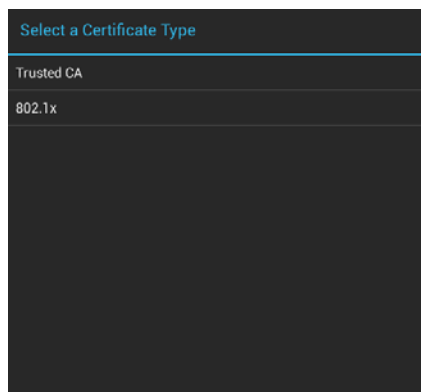

FIG. 106 Select a Certificate Type window
2. Select the type of certificate that will be installed: *Trusted CA* or *802.x1* (FIG. 106):